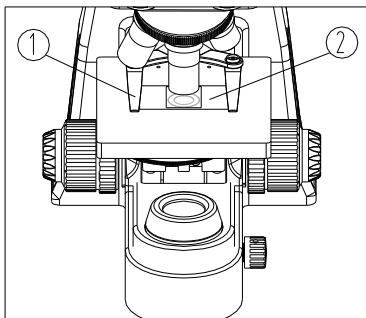

Fig. 8
1. Place the slide on the stage with the cover glass of slide (2) facing upwards and move the specimen to the center (aligned with the center of objective). Hold the slide in place using the slide-holder (1) (see Fig.8).